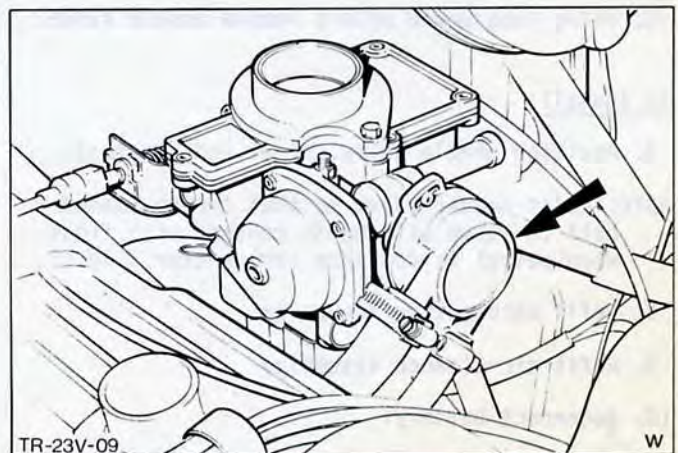

Fig.68. Auto-choke bi-metal coil housing.
4. Remove three cross head screws and detach choke bi-metal coil housing, position clear of choke, Fig.68.